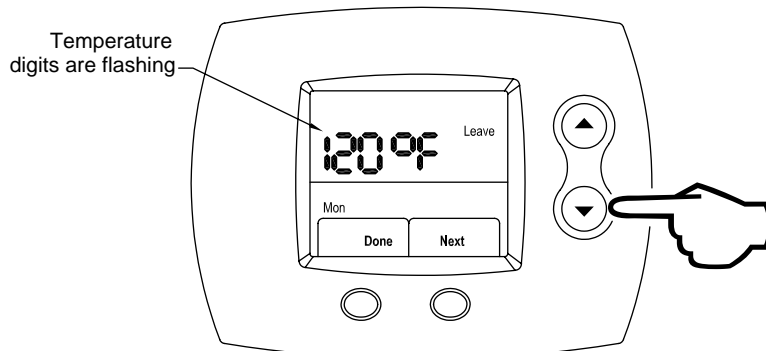

Figure 60
Step 13: Using the **UP** (increase water temperature) or **DOWN** (decrease water temperature) buttons, select the desired water temperature for the Leave period. This is shown in Figure 60.